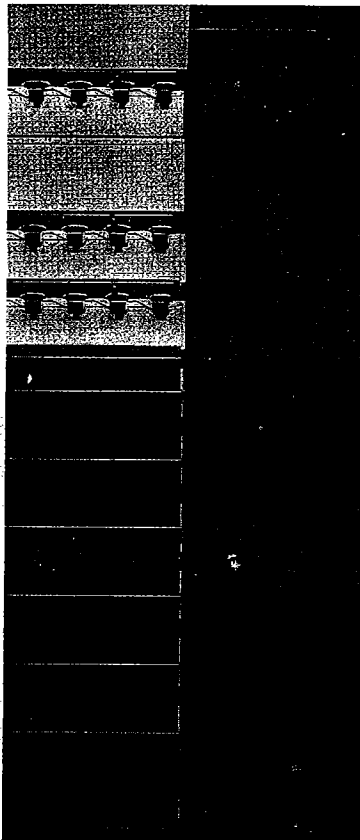

Figure 14. Ballot Label Locking Cover
2. Remove the Locking Cover at the right of the Ballot Label Holder. (Figure 14) Use the knob on the cover to raise the Locking Cover slightly and pull toward you (away from the machine).